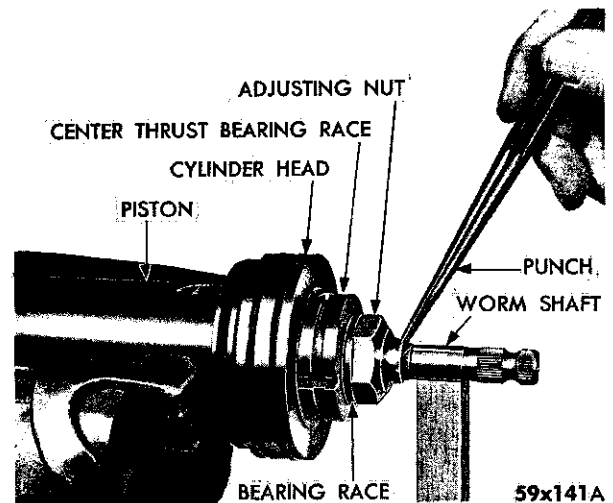

Fig. 28—Staking the Worm Shaft Bearing Adjusting Nut
(6) Stake the upper part of the worm shaft adjusting nut into the knurled area of the shaft as follows:
a. Hold a ¼ inch flat end punch on the center line of the worm shaft and perpendicular to the worm shaft and at a slight angle to the nut flange (Fig. 28).